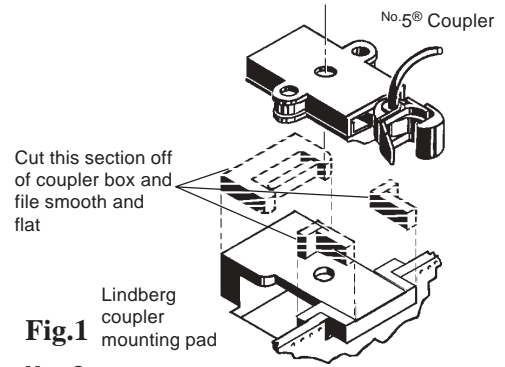

Fig.1
2. Modify coupler pocket by cutting off sections shown in Fig.1. File smooth and flat.